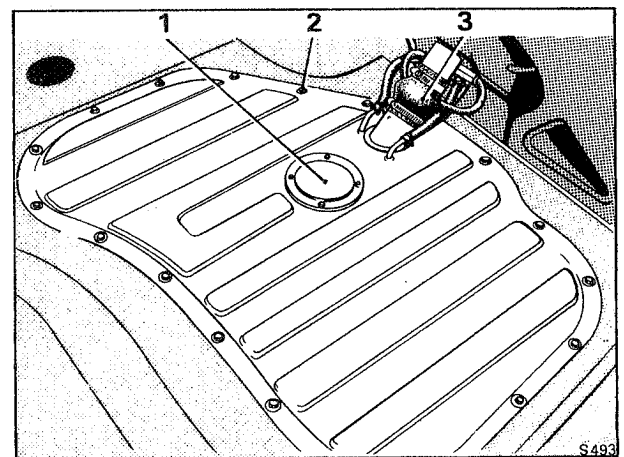

Fig. K3 Fuel tank installation
4. Remove the carpet and underlay from the luggage compartment floor to reveal the fuel tank (see Fig. K3).
5. Unscrew the four screws securing the circular metal cover over the float assembly (see Fig. K3); withdraw the cover.